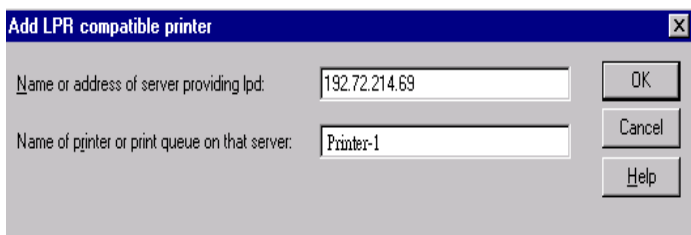

Figure 7-4
12. The Add LPR compatible printers box will then appear as shown in Figure 7-4. Type in the IP address assigned to the print server in the *Name or address of server providing lpd* box.
13. In the *Name of printer or print queue on that server* box as shown in Figure 7-4, type in a character string, for example, Printer-1.